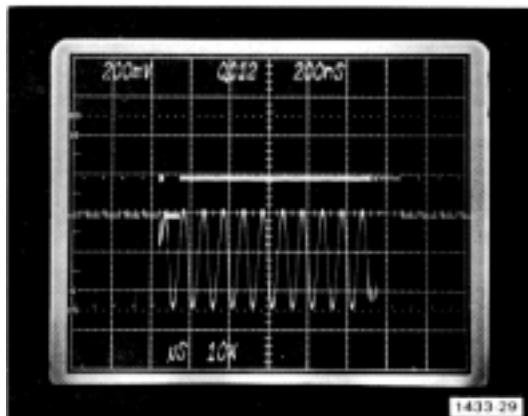

Fig. 5-10. Typical pseudo gate display when B Arm is gated.
j. Check-for a pseudo gate pulse at every positive going slope of the sine wave, except during the intensified portion. See Fig. 5-10 for a typical display.